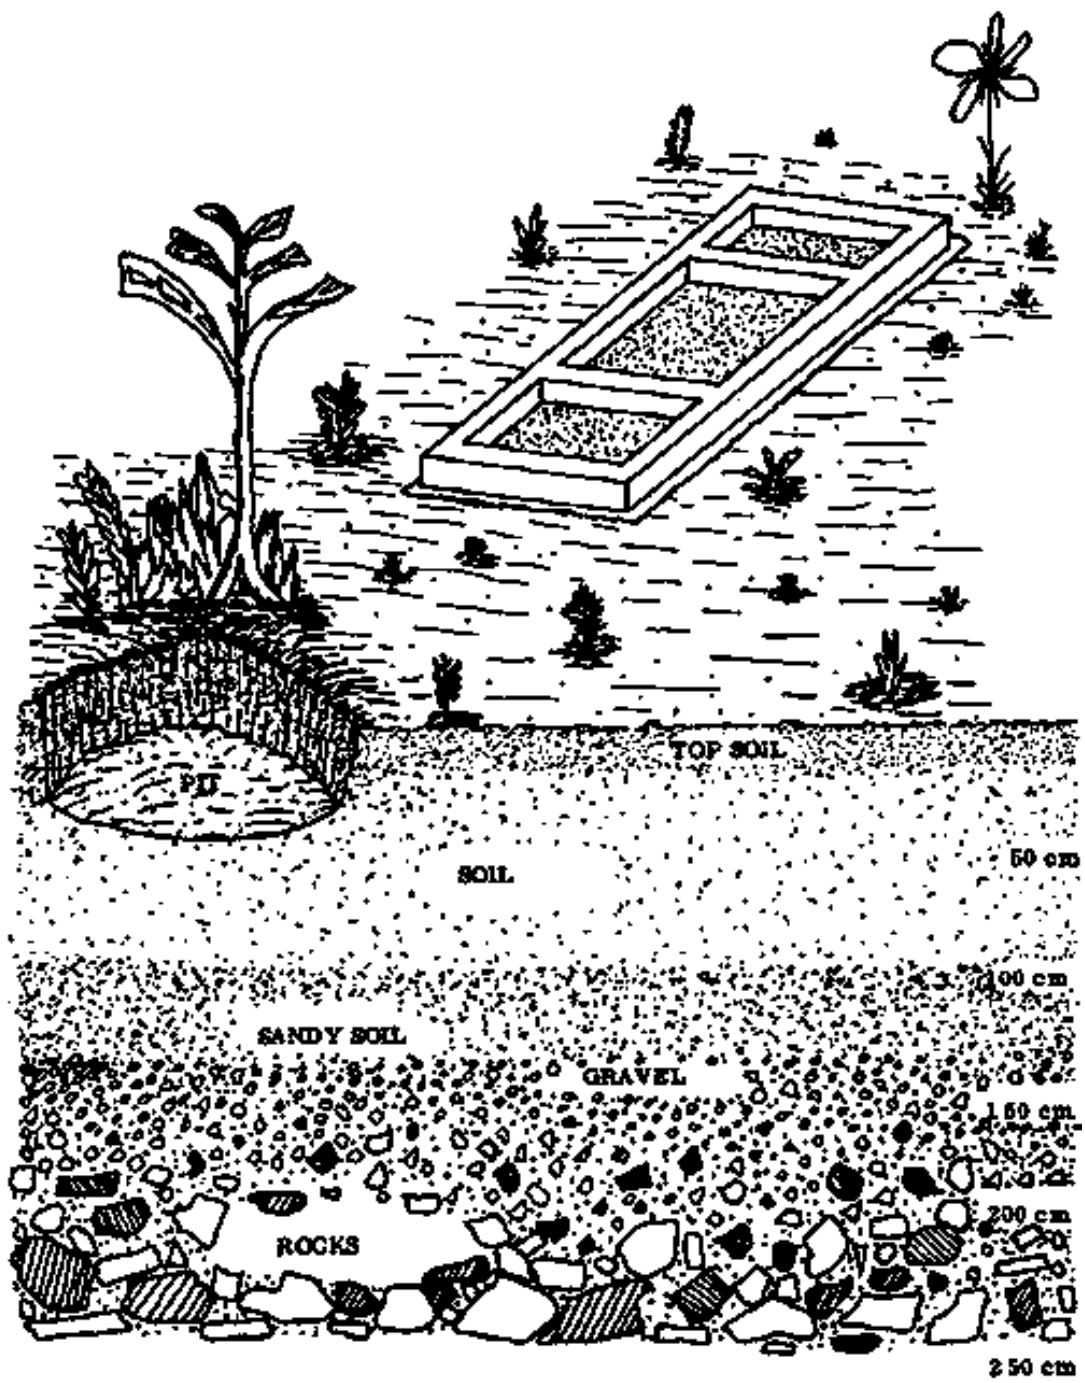

Fig. 1
- a - Remove the top layer of soil (Fig. 1).